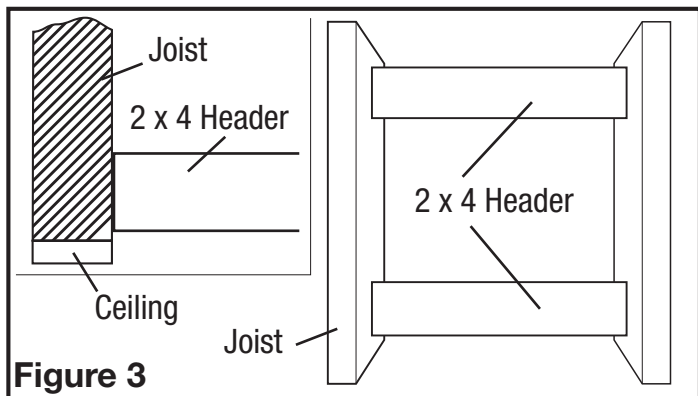
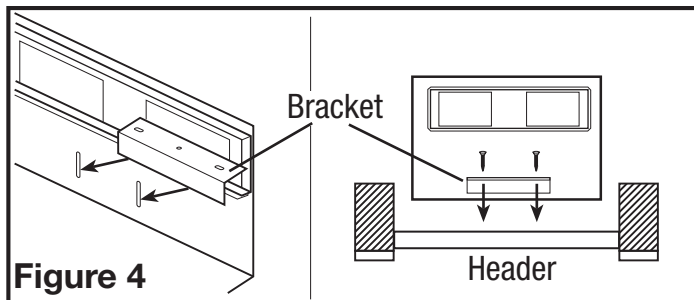

Figure 3
Figure 4
1. Install two - 2 x 4 headers (not included) between the joists (Figure 3). Install the mounting brackets through the top set of slots on the fan housing and secure in place with the four included nuts. Position the fan housing between the headers and secure the mounting brackets with screws (not included) to the header. Adjust the height of the housing so that it is flush with the finished ceiling by loosening the mounting bracket nuts and sliding the housing up or down on the bracket. Fully tighten all four nuts to secure the housing in place (Figure 4).